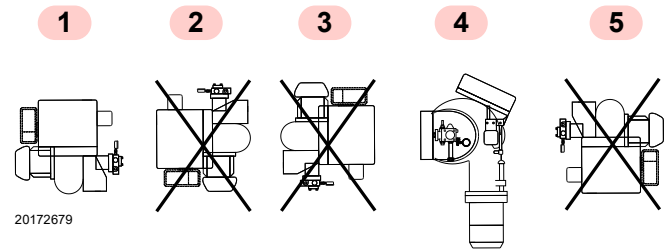

Fig. 10
- The burner is designed to work only in positions **1** and **4** (Fig. 10).